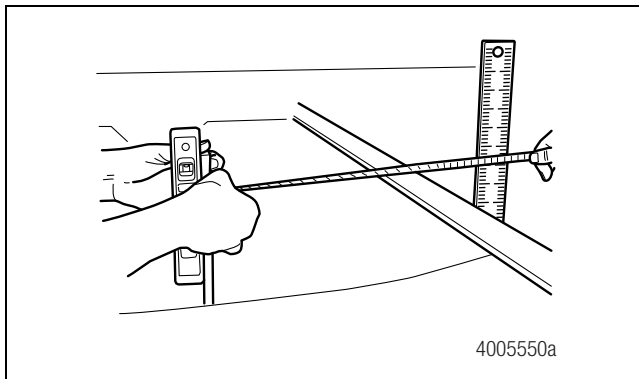

Figure 13.28
3. Measure the distance from the center of the transmission universal joint to the frame rail. Use a carpenter's square or other straightedge if needed. Figure 13.28.
4. Measure the distance from the center of the carrier universal joint to the frame rail. Use a carpenter's square or other straightedge if needed. Figure 13.28.